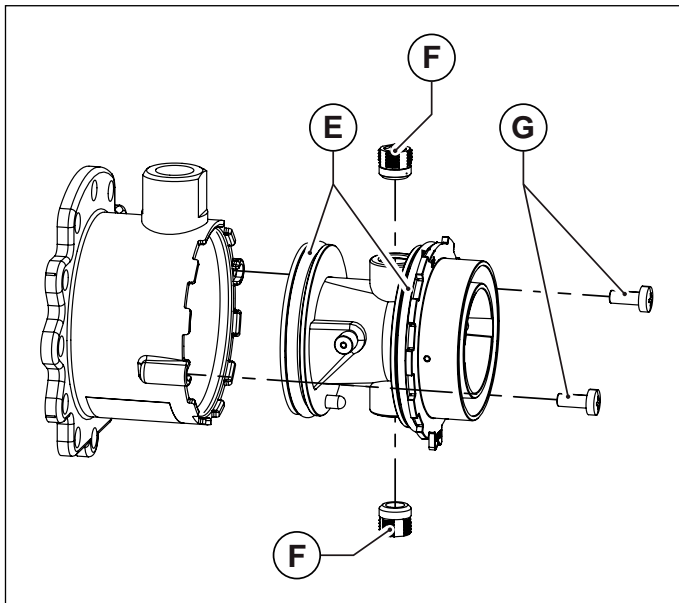
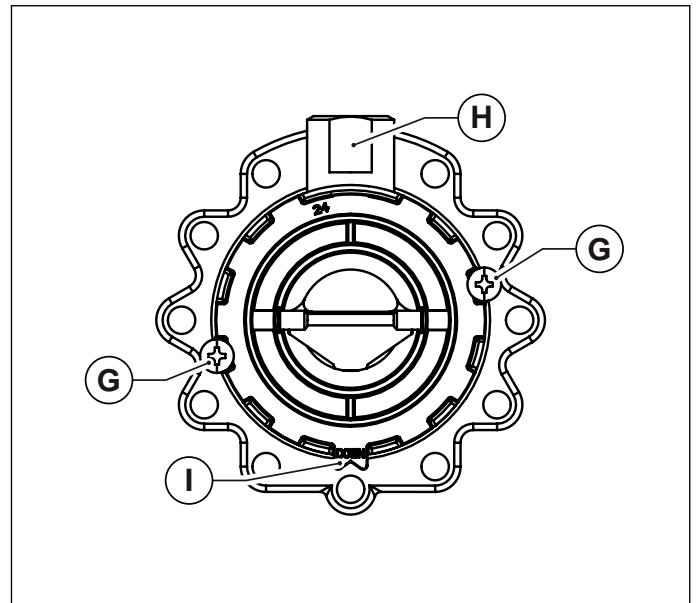

Fig. 43 Mixer plastic body
Fig. 44 Assembling direction
- Loosen the two retaining screws, and slide out mixer plastic body (see Fig. 43 Mixer plastic body).
- Using a 6 mm Allen wrench, loosen the two mixer nozzles (see Fig. 43 Mixer plastic body).
- To refit the plastic body (Venturi), insert it inside mixer and secure it in place with the retaining screws. Take care not to damage the O-rings assembled on plastic body ends (see Fig. 43 Mixer plastic body) and to respect the assembling direction (see Fig. 44 Assembling direction).
- Refit the reassembled mixer onto the fan with the socket head screws, making sure to insert the O-ring between mixer and fan (see Fig. 43 Mixer plastic body).